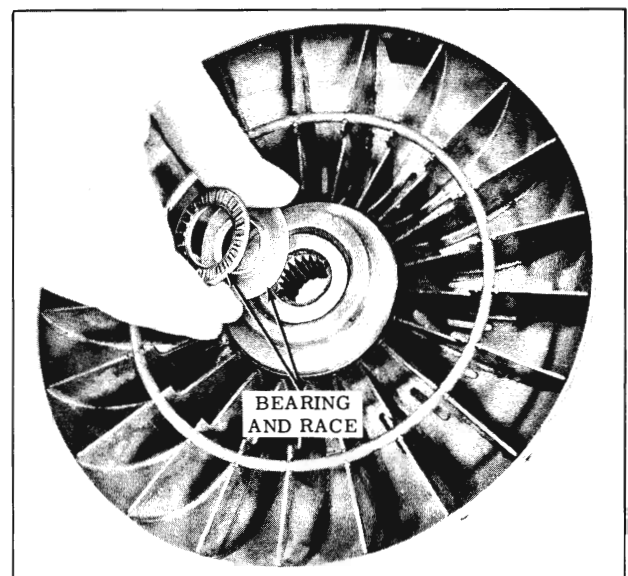

Fig. 3-308 Driven Torus Bearing
- 39. Install cupped race and bearing into driven torus, bearing out. Retain with petrolatum. (Fig. 3-308)